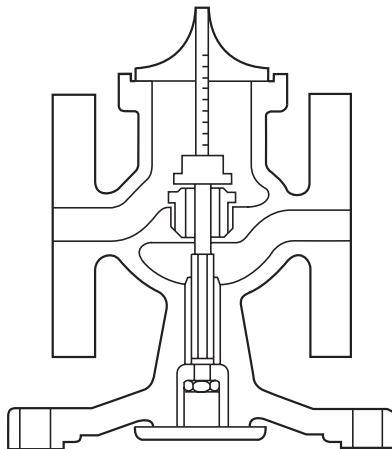

Fig. 12
2. Undo the union nut (27C) and the pressure pipe union nut (29) and release the 6 mm stainless steel pipework.
3. Undo the 4 nuts (21) and remove the pilot valve housing (10) complete with the spring housing assembly.
4. Remove the main valve return spring (16) and the main valve (17).
5. Using a socket (see Table 2, page 24) remove the main valve seat (18).
9. Where a part had been fitted or where extensive lapping has taken place, it will be necessary to reset the main valve pushrod (26) to give the correct valve lift.
11. Refit the pushrod (26) and replace the main valve (17) making sure it is located onto the main seat.
12. The main valve can now be opened by pushing on the main diaphragm plate (25) until it comes up against the stop on the body, see Figure 12. Check the valve lift by using a depth gauge as shown.
13. If the lift is different from that shown in the Table 3, page 24, slacken the lock-nut (30) and adjust the lift by screwing the pushrod (26) in or out of the main diaphragm plate (25). When the lift is correct, retighten the lock-nut (30).